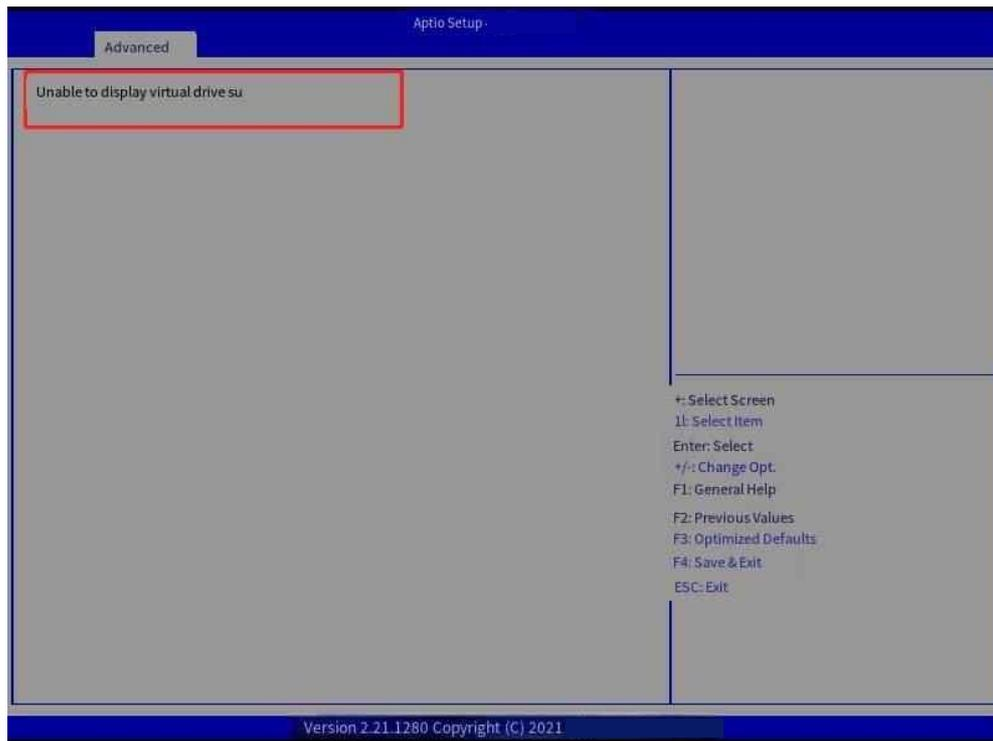

Figure 7-48 Checking the RAID
Step 4: On the home screen, select Main Menu and press Enter, select Virtual Drive Management, and press enter. After entering, check that the original RAID array has been deleted (Figure 7-48).